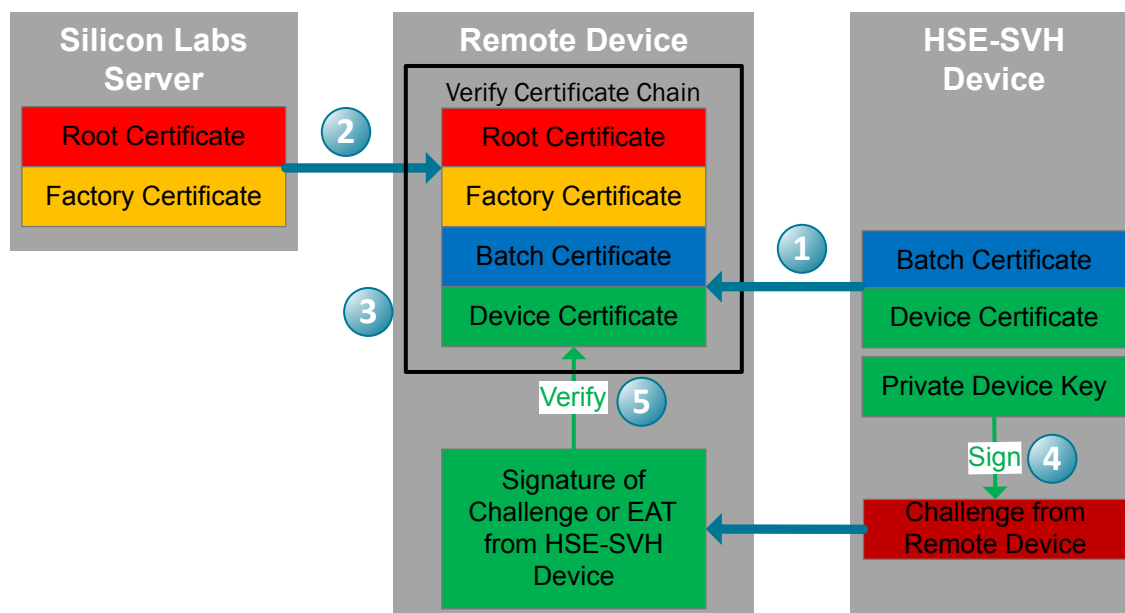

Figure 6.1. Remote Authentication Process
- Signed to a Silicon Labs Certificate Authority (CA).
- The device can prove that it possesses the private key associated with the public key in its certificate by signing the response to a given challenge (Figure 6.1 Remote Authentication Process on page 14 and 8.3 Certificate Chain Verification and Remote Authentication).